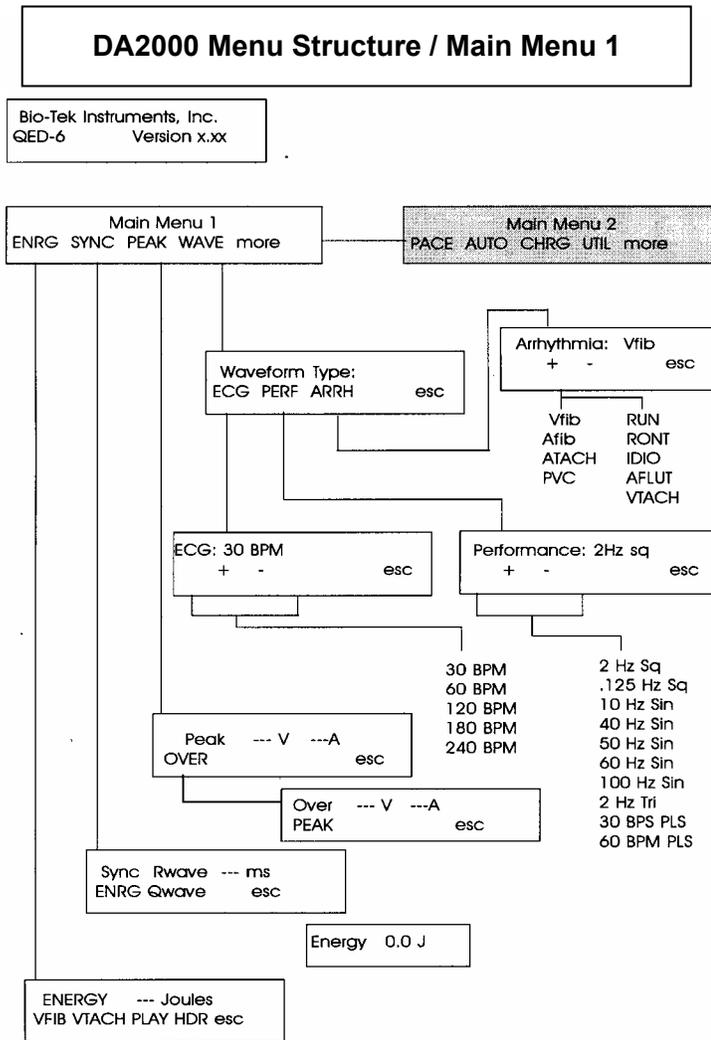

Figure 2.2.1. DA2000 Menu Structure (Main Menu 1)
- 3) Press the soft key corresponding to **VFIB** (refer to **Figures 2.2.1** and **2.2.2** for an overview of the menu functions). A ventricular fibrillation waveform will be simulated by the DA2000 through the ECG jacks and paddle plates. Once a discharge is complete, the DA2000 will output a 90 BPM Normal Sinus Rhythm.